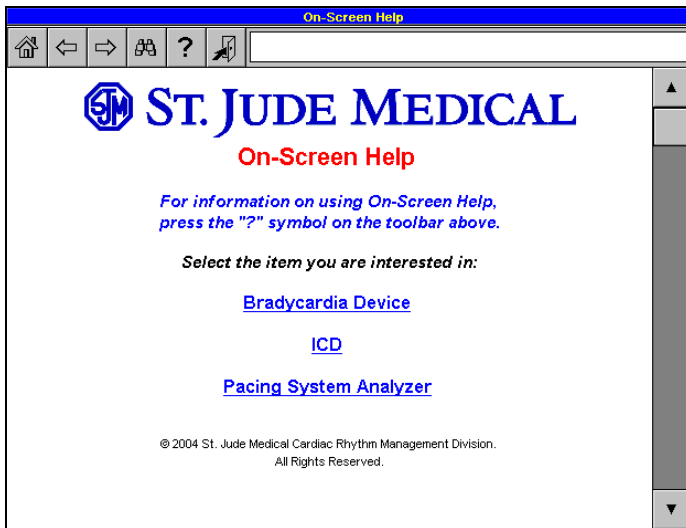

Figure B-1. On-Screen Help Table of Manuals
Press [HELP] to display the On-Screen Help Title Page (Figure B-1) which lists the device types for which help is available. Select the desired device type. The Home screen is displayed for that reference manual, which provides the option of seeing the Table of Contents or Index.
- **Home Key.** Displays the Home screen (if [HELP] was selected during a session) or the Table of Manuals screen (Figure B-1) (if [HELP] was selected from the Start-Up screen)
1. Make sure you are not on the Home screen or the Table of Manuals screen (Figure B-1) by selecting a device type from the Table of Manuals screen and/or [Table of Contents] from the Home screen.